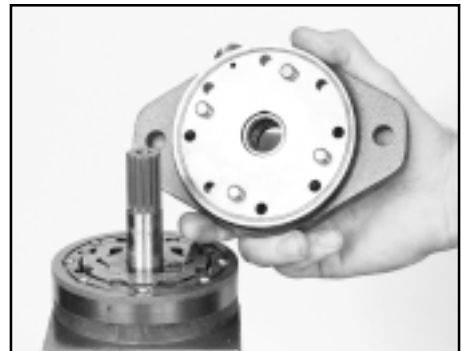

Figure D3
SEE FIGURES D3.
3. Lift front bearing housing/flange (10) by lightly tapping the flange up off the dowels with a soft hammer. Do not remove the dowel pins., SEE FIGURES D3.